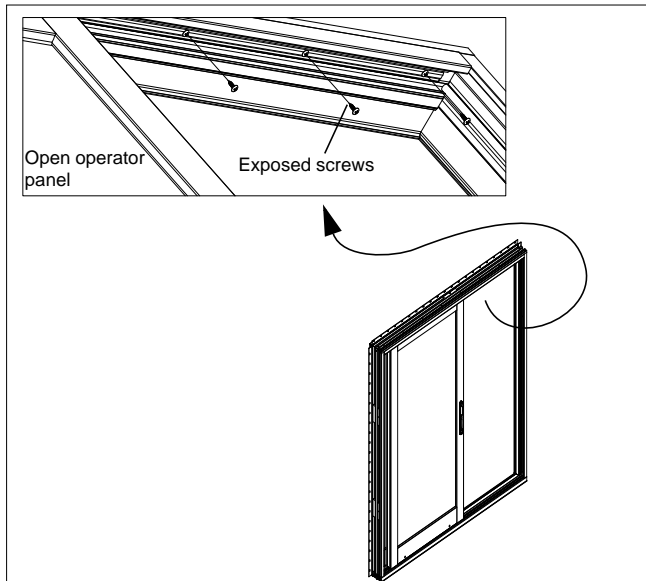

Figure 9
- Unlock and open panel. Lower the panel completely (see panel adjustment section in general sliding door instructions). Remove the exposed screws fastening the panel guide to the head jamb. See figure 9.